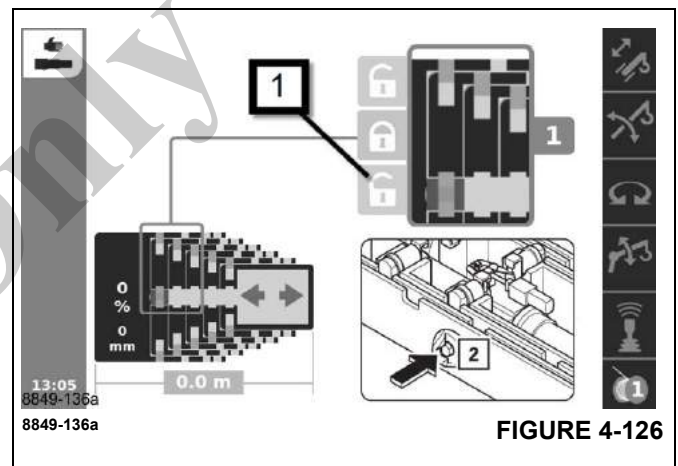

FIGURE 4-126
Select the symbol (1), (Figure 4-126).